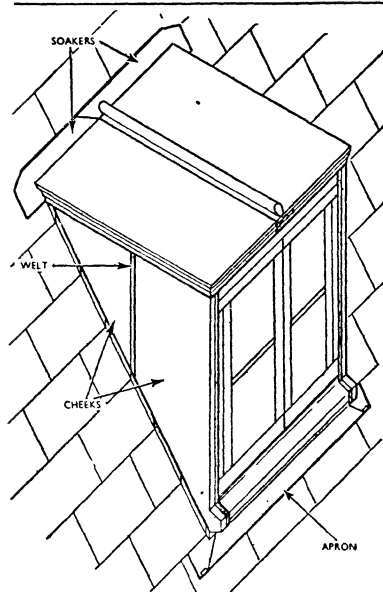

Fig. 1 (above). Leadwork on a dormer window built on a timber-frame roof.
Noses are often added to prevent the base from dropping. The best type, as shown in Fig. 1 overleaf, is a framed, ledged and batten door. The
**Fig. 1.** Effective operation of a door depends primarily upon good workmanship in construction and hanging. Above are shown various types of door and their respective constructions, together with the appropriate mouldings, frames and fixings.
A dormer built on to a timber-frame roof is shown in Fig. 1. The apron is fixed before the window frame is placed in position, the lead being taken up behind the sill to form a water-tight joint. Soakers (q.v.) form the top joint between the roof and the dormer, and where the cheeks are in two pieces they are joined by means of a welt. A bossed-lead soaker is used for weathering each corner of the dormer at the joint of the roof and the sill, this often requires careful bossing and working. These various processes are illustrated in Fig. 2.